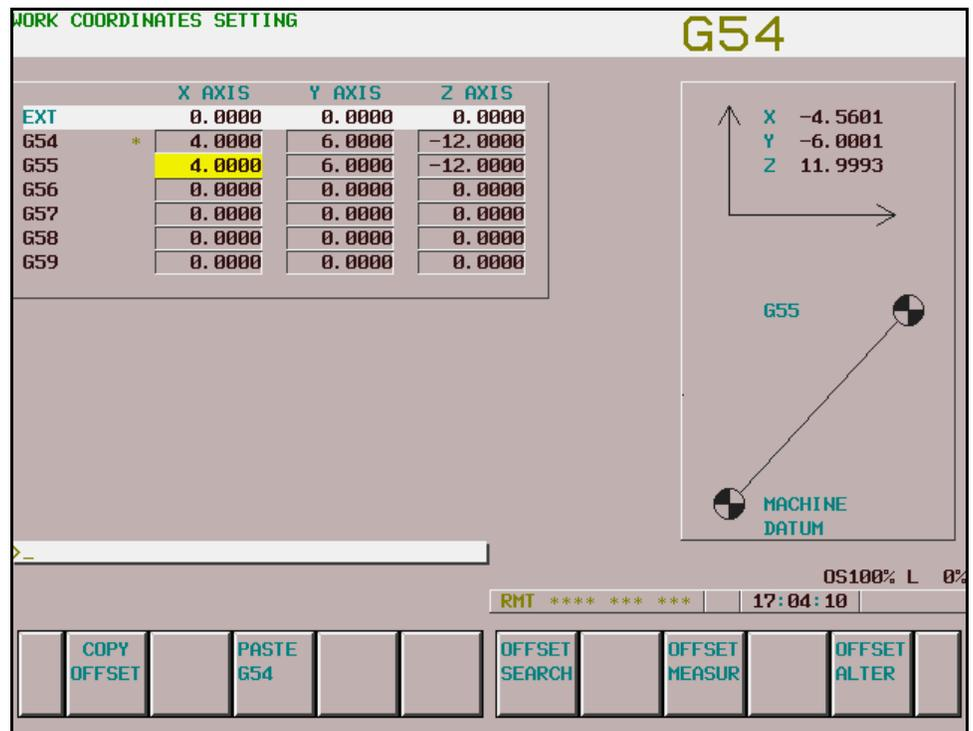

Figure 6-6: Paste G54 Softkey
6. Type-in 8.0 inch and press the OFFSET ALTER softkey (Figure 6-6:); this will add 8.0 inch to the value that was in G55 X-AXIS.